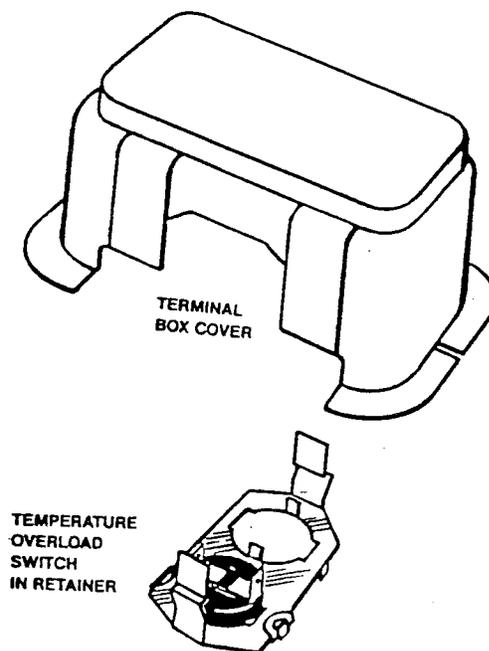

Fig. 8 Temperature Overload Switch
3. Lift off the cover of the terminal box on top of the compressor. See Fig. 8.